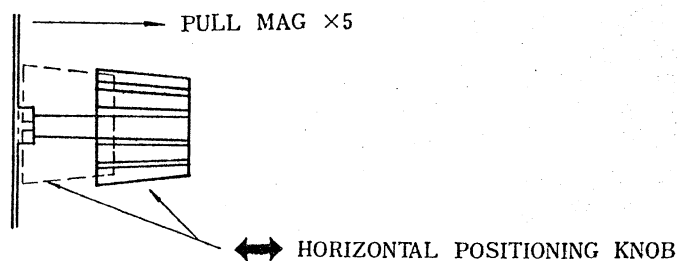

Fig. 3-7 Position of MAG $\times 5$ knob in use.
2. Pull forward the MAG $\times 5$ knob, see Fig. 3-7.